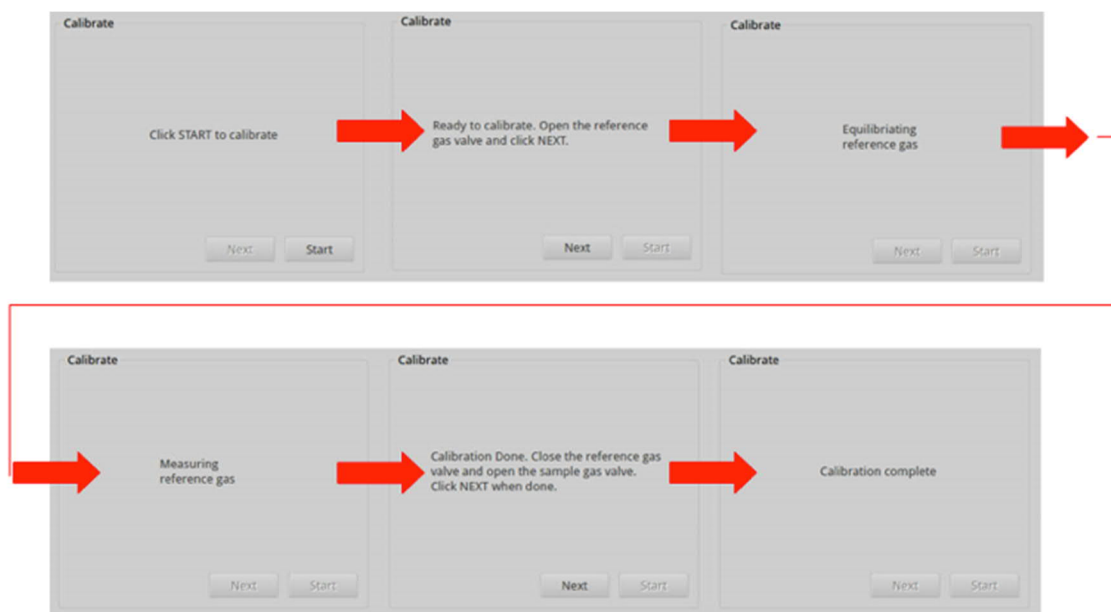

Figure 42: Calibration Flow
8. Each step is displayed in the lower-right panel of the calibration screen as the analyzer performs the calibration. Figure 42 shows the calibration process as a flow chart.